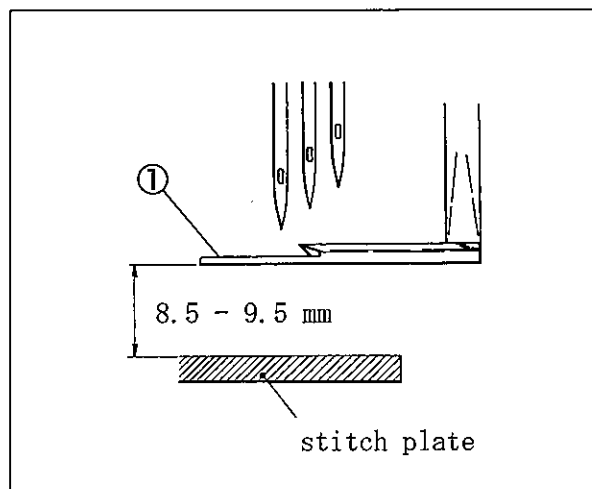

Fig. 46
- (4) Make the height from the top of the stitch plate to the bottom of the spreader ① to 8.5 - 9.5 mm. Then tighten the screw ③ securely. (Figs. 46 and 47)